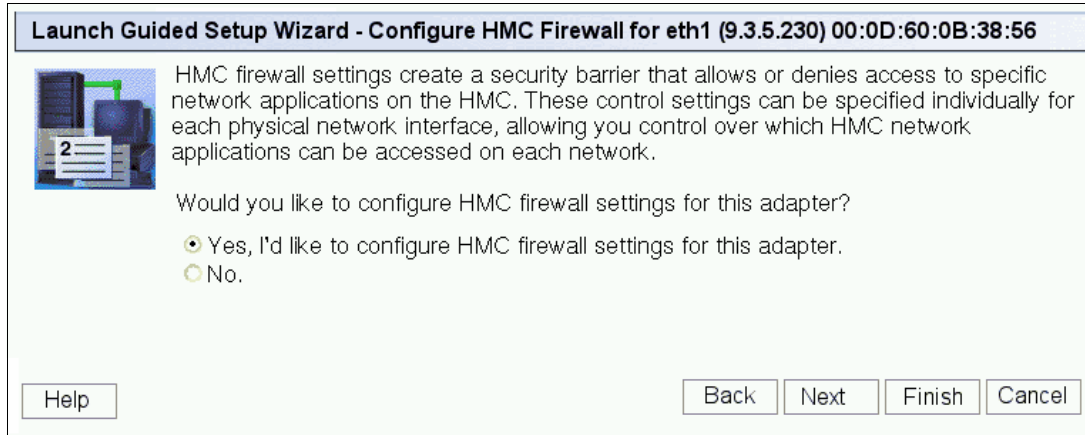

Figure 3-12 Launch Guided Setup Wizard - Configure HMC Firewall for eth1
16. The Launch Guided Setup Wizard - Configure HMC Firewall for eth1 panel is now displayed, as shown in Figure 3-12. Commonly, there is a firewall that controls access from outside to your network. Because the HMC is connected to an open network, we can also restrict outside access to the HMC by using a built-in firewall in HMC. There are some applications that run on the HMC that can be secured from unauthorized outside access.